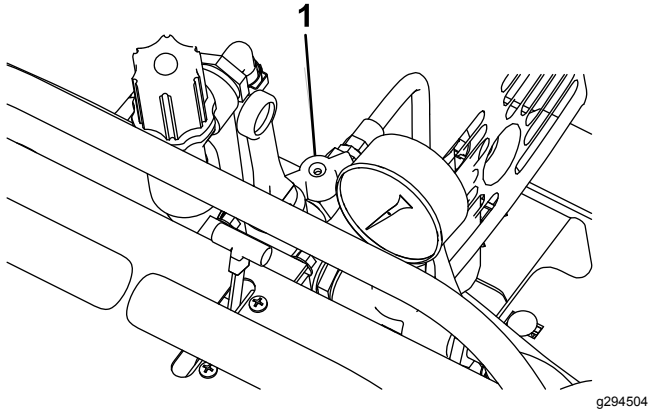

Figure 22
3. Turn the spray gun valve to the OPEN position (Figure 22).